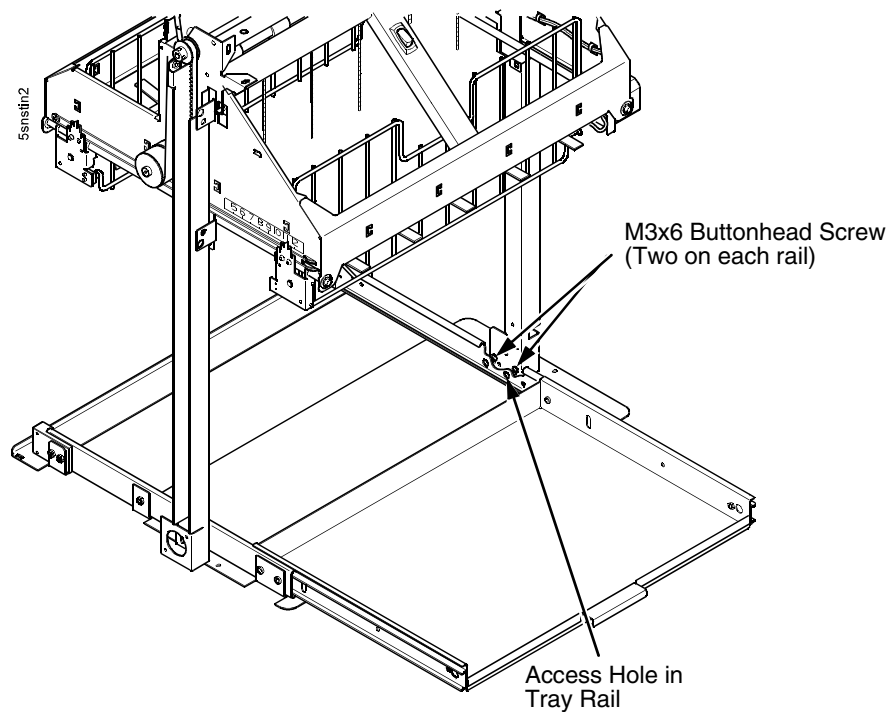

Figure 82. The Lower Screws in the Vertical Rails
10. Pull the paper tray out until the holes in the rails permit access to the M3 buttonhead screws. (Figure 82.)
11. Loosen one turn—do not remove—the M3 screws securing the vertical rails to the stacker base. Each rail is secured by two screws. (Figure 82.)
30. Pull the paper tray out until the holes in the rails permit access to the M3x6 screws. Tighten the M3 screws securing the vertical rails to the stacker base. Each rail is secured by two screws. (Figure 82.)